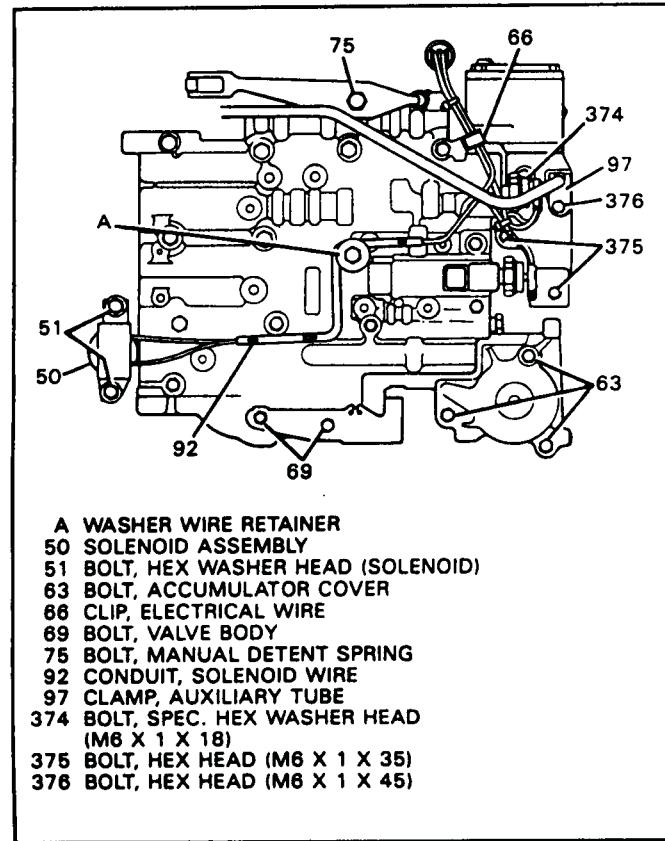

Figure 54
9. Remove bolt (75) and remove the manual detent spring (See Figure 54).